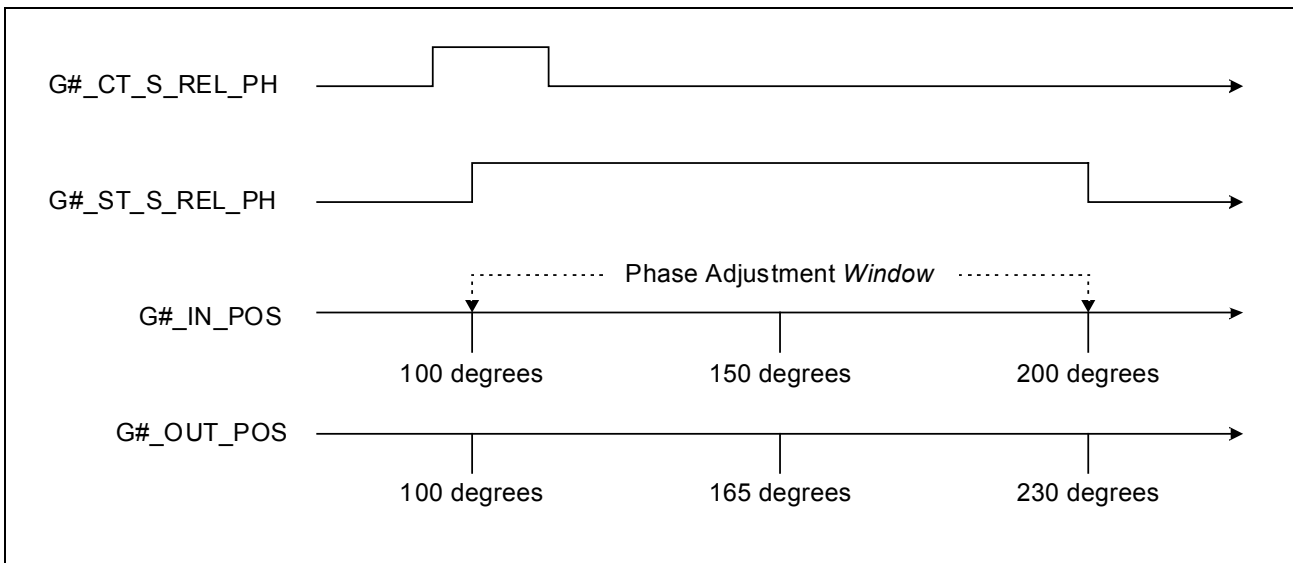

Fig. 6-36: ELS Group Master Following Phase Adjust Example
In the example of Fig. 6-36 (above), `G#_ABS_S_PH` is assumed to be 30°, `G#_MST_DIST_S_PH` is assumed to be 100°, and `G#_CT_MSTR_FOL_PH` is assumed to be set (1).